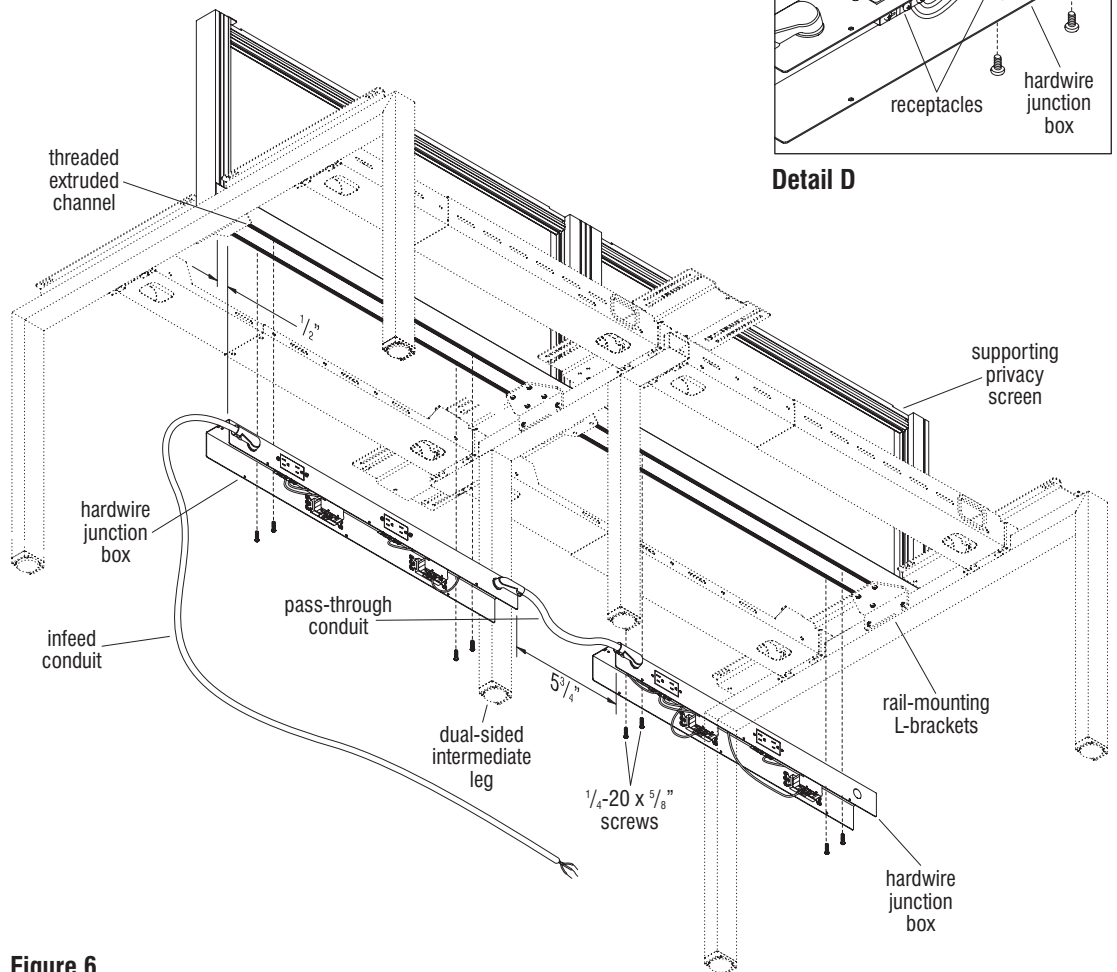

Figure 6
7. Position the pair of hardwire junction boxes up under the threaded extruded channels of the privacy screen such that each box end is 1/2" from the crossbeam of the leg at each end, covering a portion of each rail-mounting L-bracket. Secure the hardwire junction boxes to this precise location using four 1/4-20 x 5/8" screws per box as illustrated. The pass-through conduit will hang under the dual-sided intermediate leg (Figure 6).